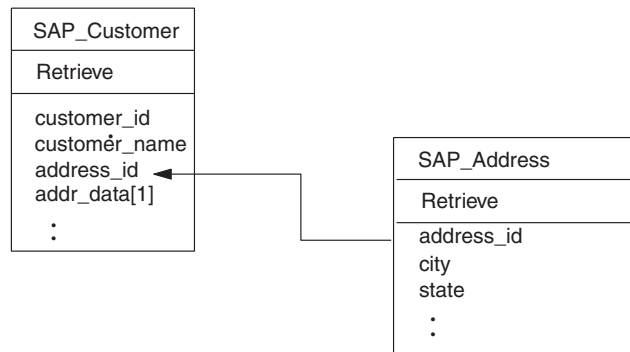

Figure 60. Example customer and address relationship
- In a single-cardinality relationship, the foreign key is determined by the primary key in the child referencing a **non- key** attribute in the parent as its foreign key. Each child has at least one simple attribute that references a non-primary key attribute in its parent as a foreign key. Figure 60 provides an example.
Figure 60 provides an example of a simple WebSphere business object developed to process customer objects in SAP. This example SAP_Customer has a single-cardinality relationship to the example address object that it contains (the addr_data[1] attribute has cardinality 1). The primary key attribute (address_id) in the child business object references a non-primary key (address_id) in the parent business object.